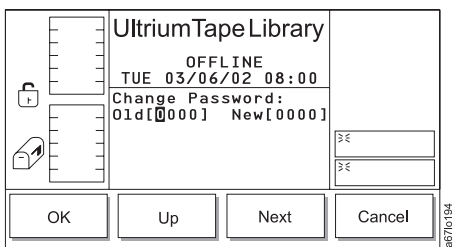

Figure 4-124. Set/Change Password Dialog
7. Press the button below the **Change** softkey. The Set/Change Password Dialog displays (see Figure 4-124).